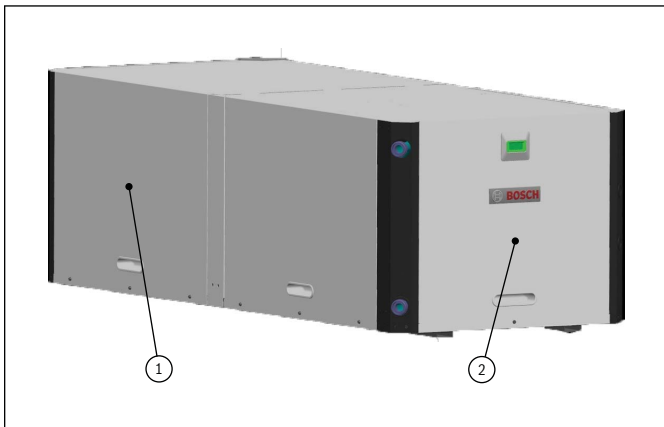

Figure 14
3. To install, remove the access panels (figure 14), exposing the blower section (side, pos.1), and the electrical panel (front, pos.2).